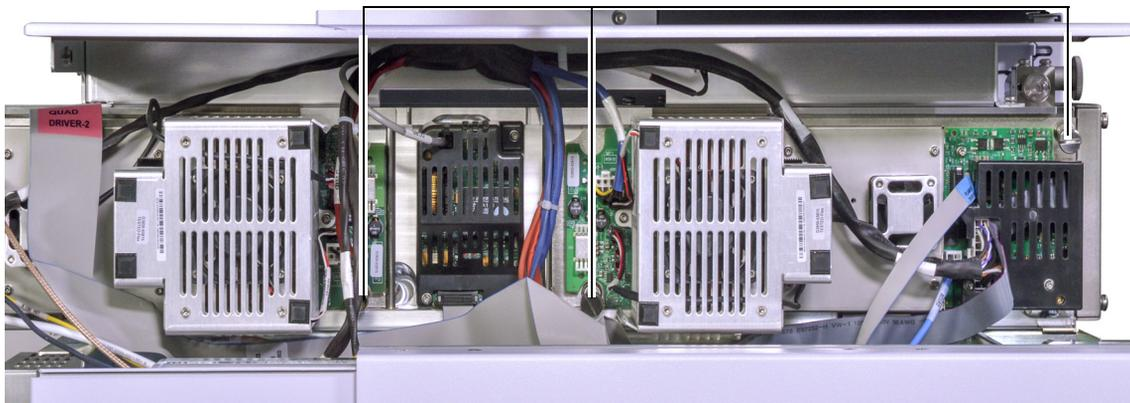

Figure 9. Side plate thumbscrews
- 7 Finger-tighten the side plate thumbscrews for both analyzers. (See **Figure 9**.)